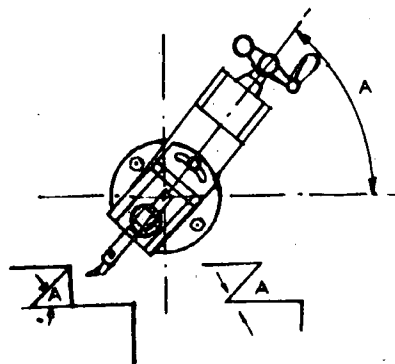

Fig. 5
- c) Tilt the tool head (Fig. 5).